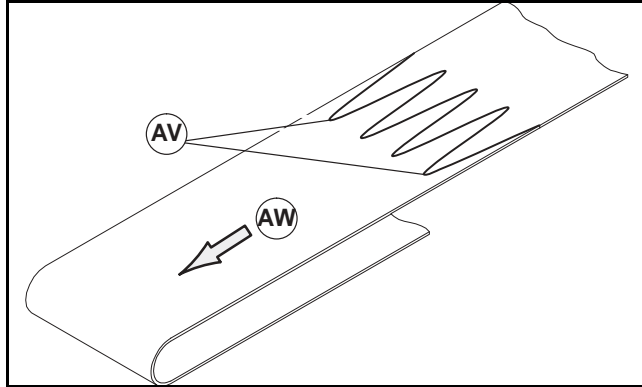
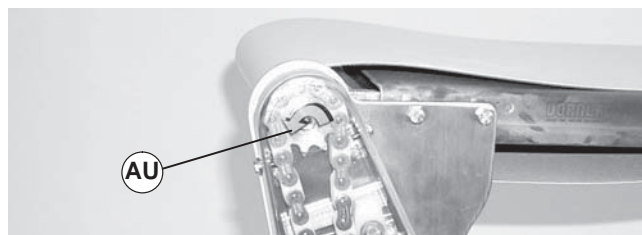

Figure 25
Figure 26
1. Orient conveyor belt so the splice leading fingers (Figure 25, item AV) point in the direction of belt travel (AW) as identified by the label (Figure 26, item AU).
1. Orient conveyor belt so that the splice leading fingers (Figure 25, item AV) point in the direction of belt travel (AW) as identified by the label (Figure 26, item AU).